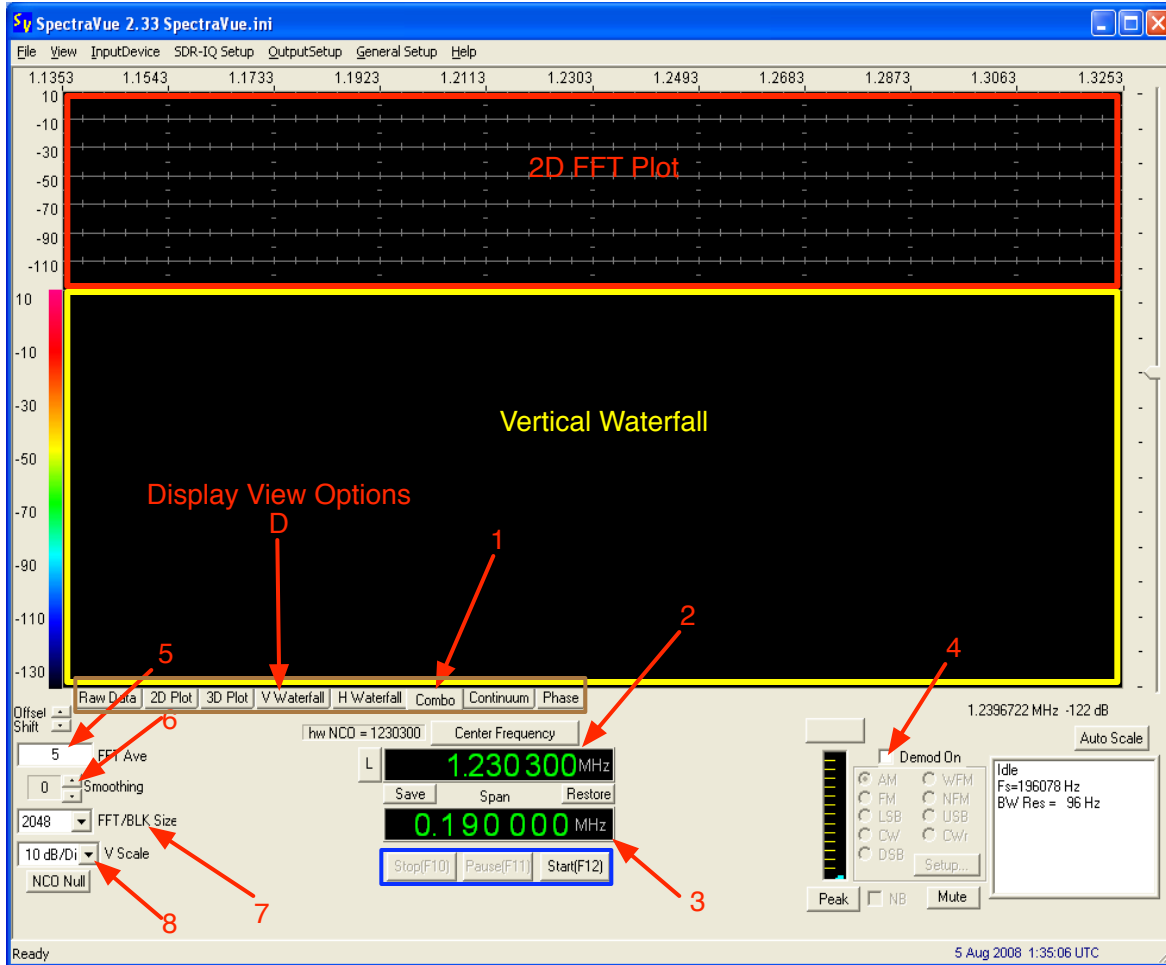
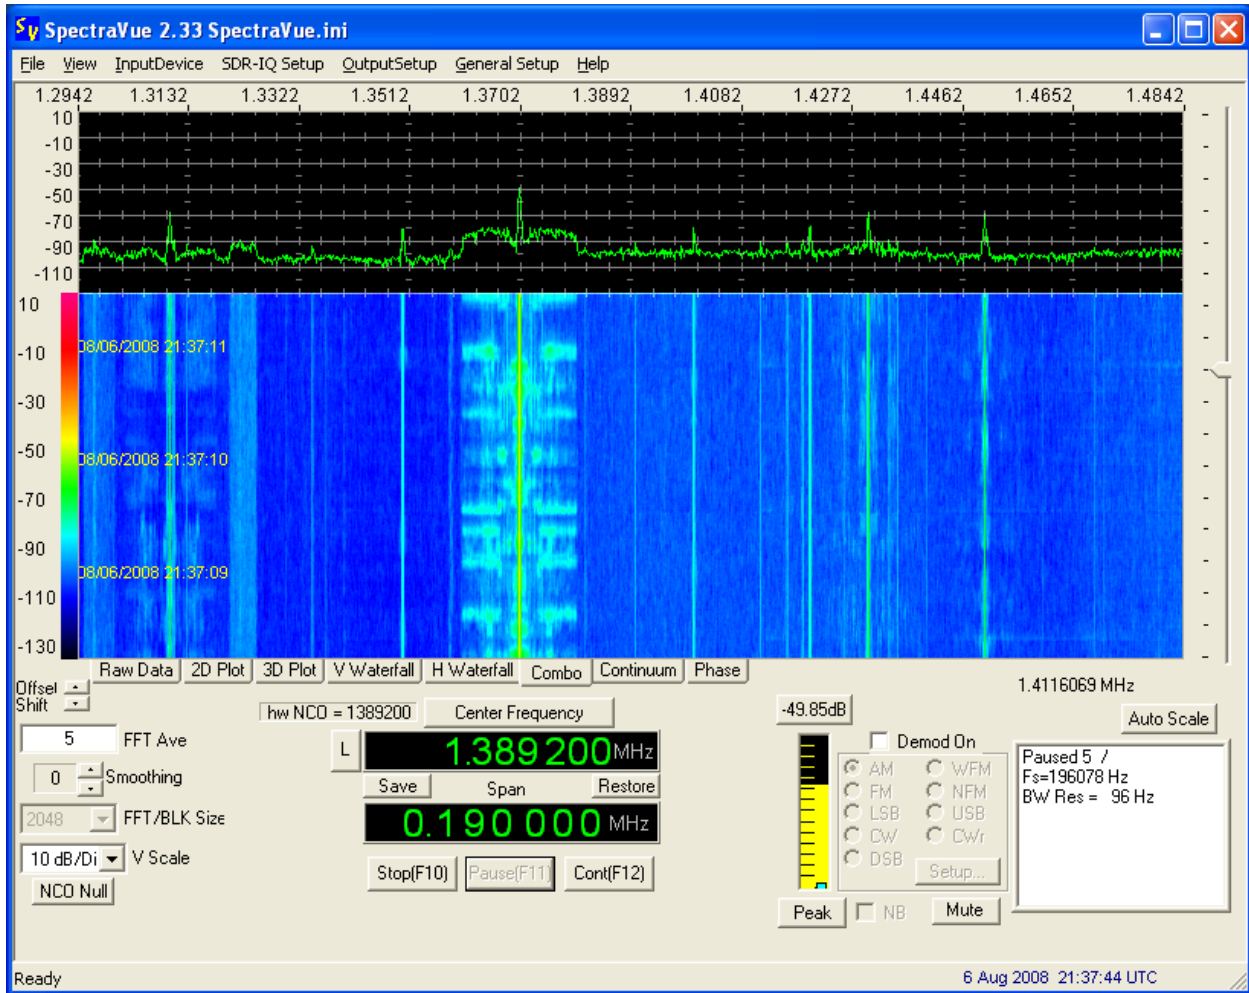

Fig 17: Display and FFT controls.
Fig 19: FFT plots.
3.8. The main display window contains a tabbed view screen where the user can click on a desired display mode tab. There are seven different view screens that can be selected as shown in Fig 16 and in Fig 17(entire display window) by **arrow D**.
- Next, select the button “Combo” to display both the vertical waterfall and 2D Plot, as shown by **arrow 1 in Fig 17** on next page.
- The 2D Plot display shows the spectrum amplitude versus frequency plot of the incoming signal. This is shown by **red box** in Fig 17.
- The vertical waterfall FFT display shows the spectrum amplitude as a color instead of as a height on the display. Frequency is the horizontal axis and time is the vertical axis. This is shown by the **yellow box** in Fig 17. Figure 17 shows blank displays, an example of real time data is shown in Fig 19 in the following pages.
- The center frequency can be changed in the box shown by **arrow 2 in Fig 17** above by using any of the several ways to edit center frequencies, as described in next step.
- Similarly the “Span Frequency” can be changed in the box shown by **arrow 3 in Fig 17** above. The span frequency sets the range of frequencies that will be displayed on the screen. The display will always show frequencies from (Center - Span/2) to (Center + Span/2).
- Next, **UNCHECK** the “Demod On” button as shown by **arrow 4 in Fig 17**.
- Set the FFT Ave to “5” as shown by **arrow 5 in Fig 17**. This function averages out noise.
- Set FFT/BLK Size to 2048. From the drop down button select 2048 as shown by arrow 7 in Fig 17. This sets the FFT data points. 2048 is the smallest size we can use.
- Set the vertical scale to 10dB/div as shown by **arrow 8** in Fig 17.
- Three buttons at the bottom of the screen control the starting, stopping, pausing, or resuming of the data capture process. Function keys F10, F11, and F12 are mapped to these buttons as well. This is shown by **blue box** in Fig 17.
3.12 Hit the “Start” button and you should see the combo display as shown in Fig 19 on the next page.